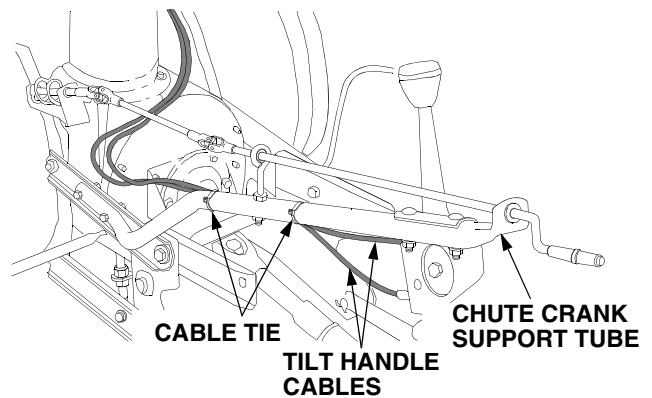

Figure 7
5. Route the tilt handle cables along the inside of the upper chute crank support tube and secure to the support tube with two cable ties (11, Fig.2). See Figure 7. Cut excess length from the cable ties.